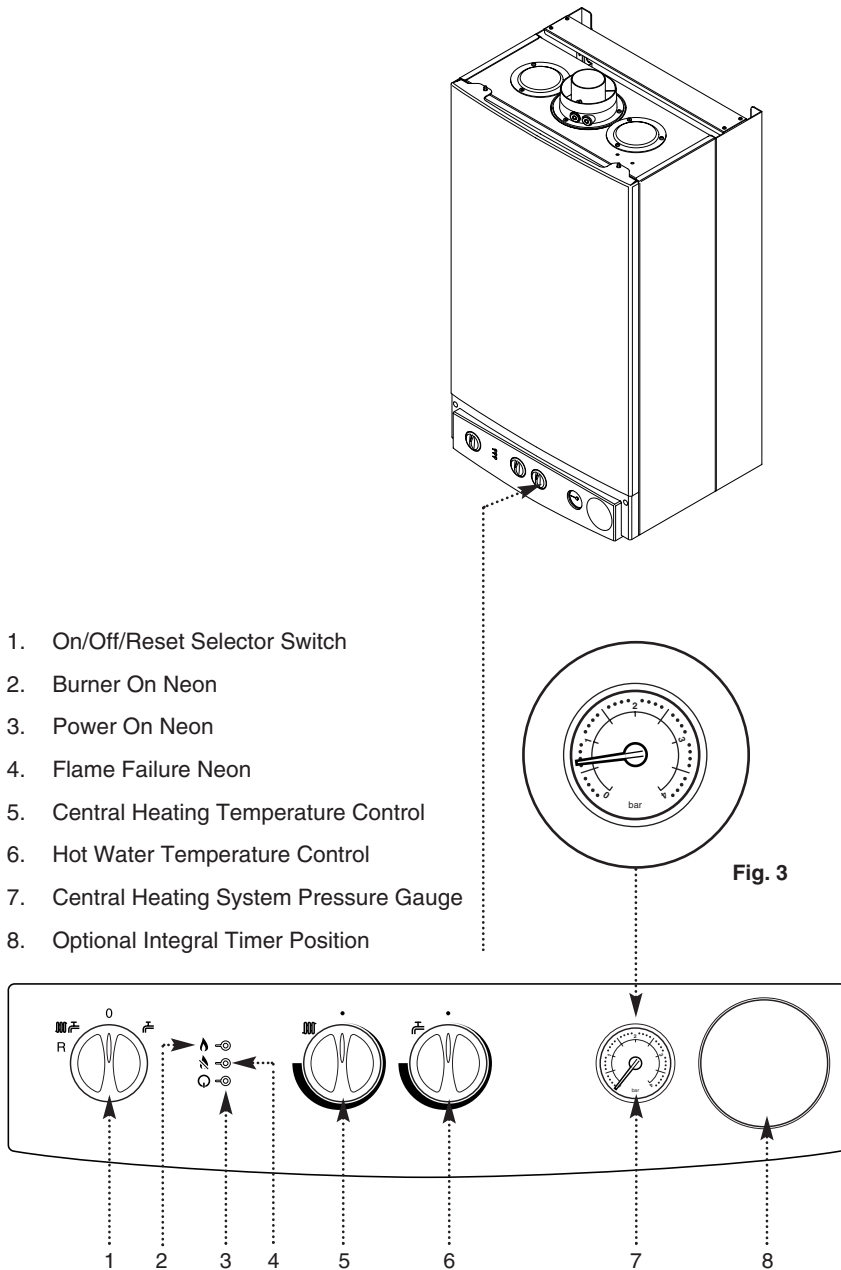

Fig. 4
3. In either position the green power on neon (P) will illuminate (Fig. 4).
7. The orange burner on neon (B) will illuminate when the boiler is operating and the main burner is on (Fig. 4).